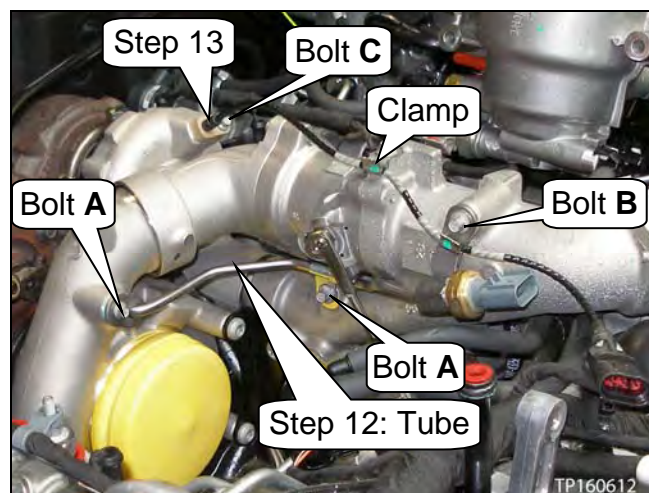

Figure 67
12. Install the low pressure turbocharger boost pressure sensor tube (see Figure 67).
13. Install the high pressure turbocharger speed sensor (see Figure 67).